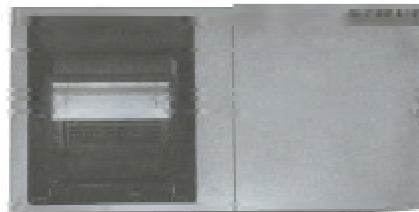

FIG. 4
8. Rotate blower / motor assembly 90° so that blower / motor exhaust is now where power box was previously located. (See FIG. 4.)